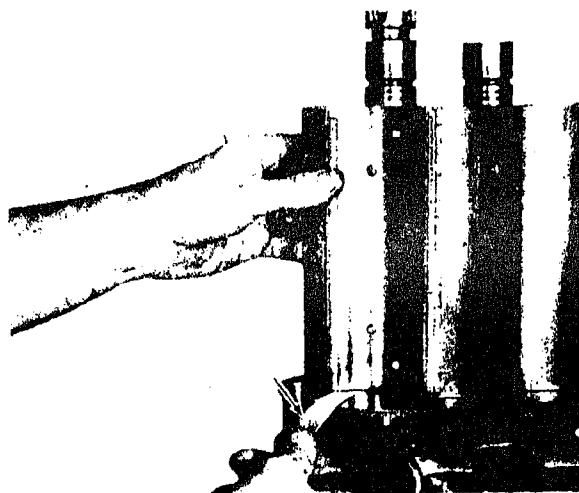

Fig. 10-4-11. Checking rotor end clearance
13. Position expansion plugs (27) on locknuts and tap place.
14. Push rotors toward gear end plate and check end clearance. Fig. 10-4-11. End clearance should be 0.003 to 0.010 in. [0.0762 to 0.254 mm]. Add or remove shims under mounting cage to obtain correct end clearance. If shims must be changed, remove locknuts and gears as described in disassembly instructions.